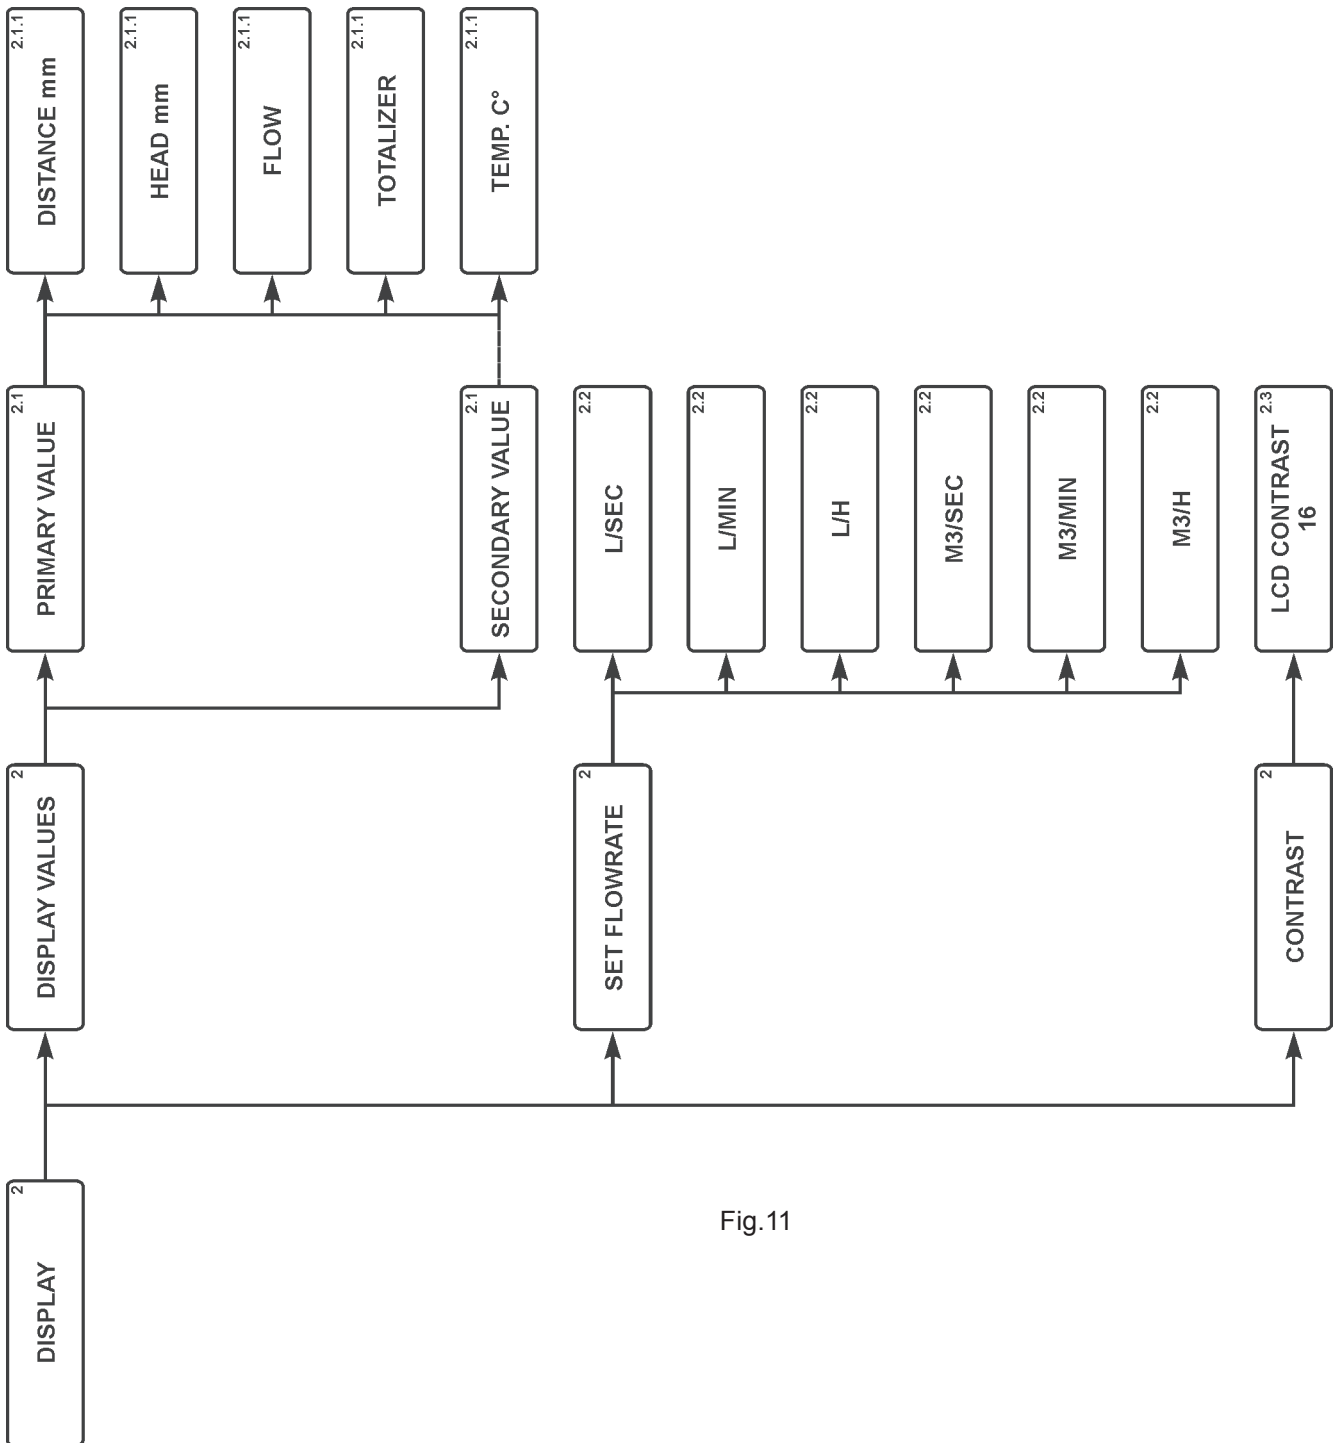

Fig.11
2. **DISPLAY** - in this menu it's possible to setup the sensor display mode and adjust the B/W contrast of LCD (fig. 11).